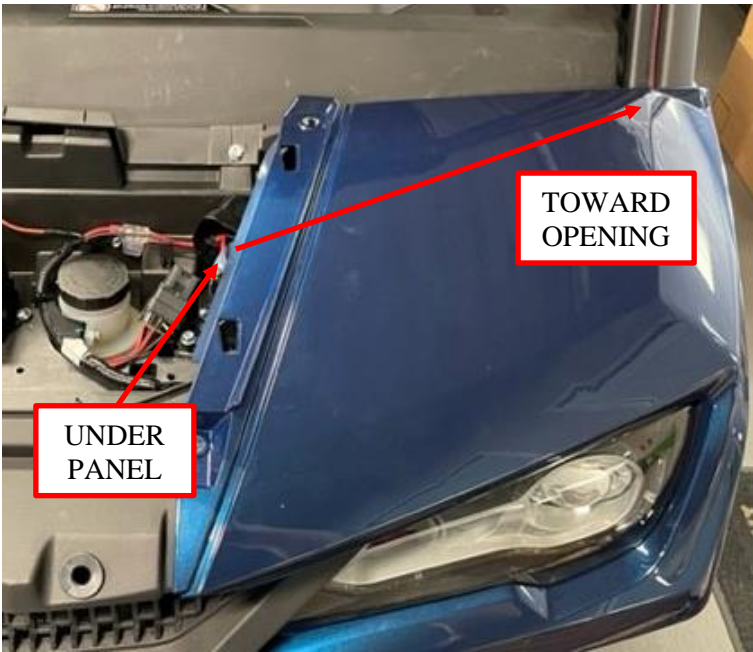

Figure 12: Chassis harness routing under body panel to opening.
11. Route the end of the chassis harness with the mating connector for the *Audio Mini* along with the wire bundle under the front body panel toward the driver's front down tube opening. See Figure 12.